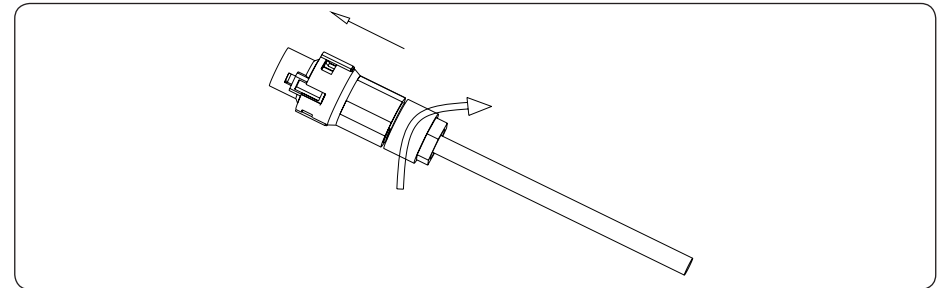

Figure 4-17
4) According to the arrow direction push the threaded sleeve to make it connected with the AC terminal head and then rotate the cable gland clockwise to lock it, as shown in figure 4-17: